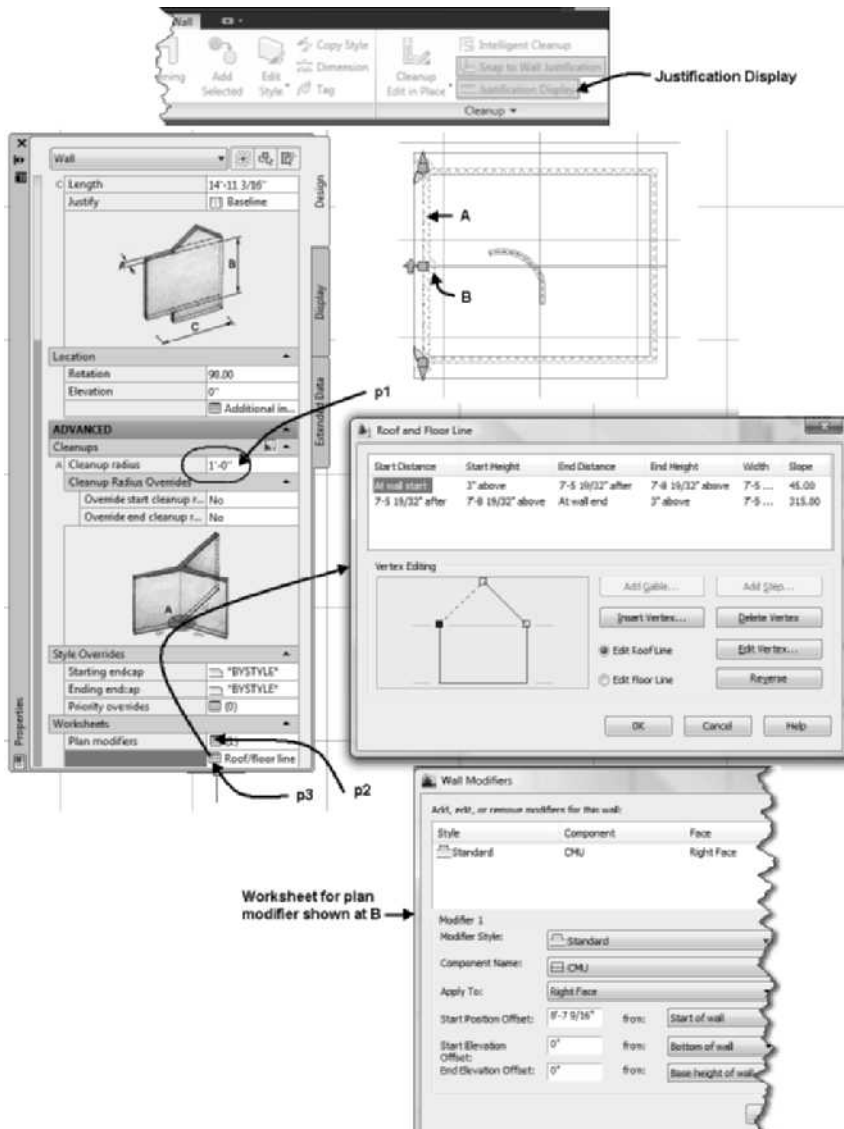

FIGURE 2.8 Advanced section of the Properties palette for a wall
20. In the Advanced section click the Cleanup radius field at **p1** shown in Figure 2.8, type **12"** [**300**]. The Cleanup radius discussed in this chapter can be used to merge components of walls. The Cleanup radius is graphically displayed by circles at each end of the wall as shown in Figure 2.8. The default cleanup radius for the remaining walls is 0; therefore the cleanup radius is not displayed. The Override start cleanup radius and Override end cleanup radius allow you to edit the cleanup radius for each end.
22. The Worksheets section includes Plan modifiers and Roof/floor line worksheets. Click the Plan modifier worksheet at **p2** of Figure 2.8 to view the settings for plan modifiers. A plan modifier is located near **B** as shown in Figure 2.8. Plan modifiers are vertical projections such as pilasters that are placed along the wall. Choose Cancel to dismiss the dialog box.
23. Retain the selection of wall **A** shown in Figure 2.8. To view the gable of the wall, choose **SW Isometric** from the View cube. Choose the Roof/floor line worksheet at **p3** in Figure 2.8. The Edit Roof Line radio button is toggled ON in the Roof and Floor Line worksheet; therefore the gable of the wall is defined in the upper pane.